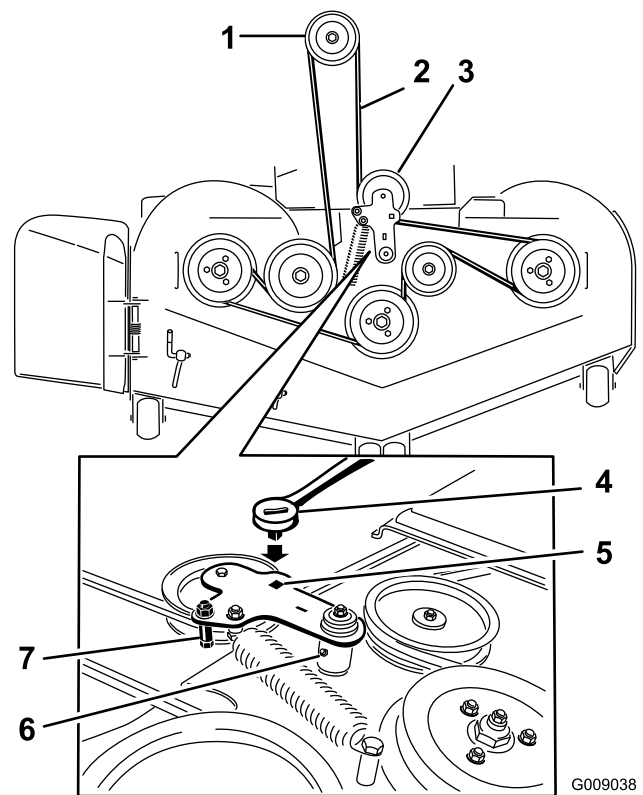

Figure 76
10. Install the belt guide on the idler arm (Figure 76).
11. Using the ratchet in the square hole, install the idler spring (Figure 76).
5. Use a ratchet in the square hole in the idler arm to remove tension on the idler spring (Figure 76).
7. Remove the belt guide on the spring-loaded idler arm (Figure 76).
9. Install the new belt around the mower pulleys and the clutch pulley under the engine (Figure 76).